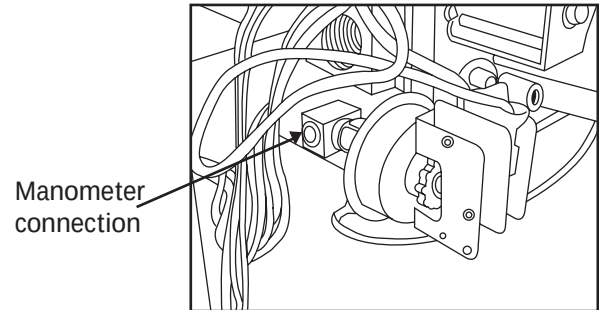

**Fig. 61 - LGPS Installed**
5. Apply pipe dope sparingly to male end of brass tee. Install propane low gas pressure switch (provided in kit) on nipple. After switch has been finger-tightened, use small wrench on base of pressure switch for final tightening. When pressure switch is tight, switch terminals should point as shown in Fig. 61 relative to gas valve and clear control compartment access door.
6. Connect a manometer to the open end of the tee installed in the gas valve. (See Fig. 61).
1. Verify manometer is connected to the brass tee connected to the inlet pressure tap on gas valve. (see Fig. 61).
14. Apply pipe dope sparingly to end of inlet gas pipe plug and install in unused end of 1/8-in. (3 mm) tee. Use a small back-up wrench on tee when tightening gas inlet pipe plug. (see Fig. 61.)